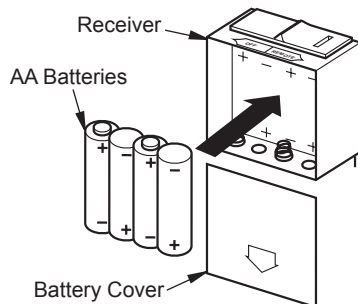

Figure 13 - Installing Batteries in Receiver
2. Remove battery cover on receiver and install batteries as shown in Figure 13. Replace battery cover.